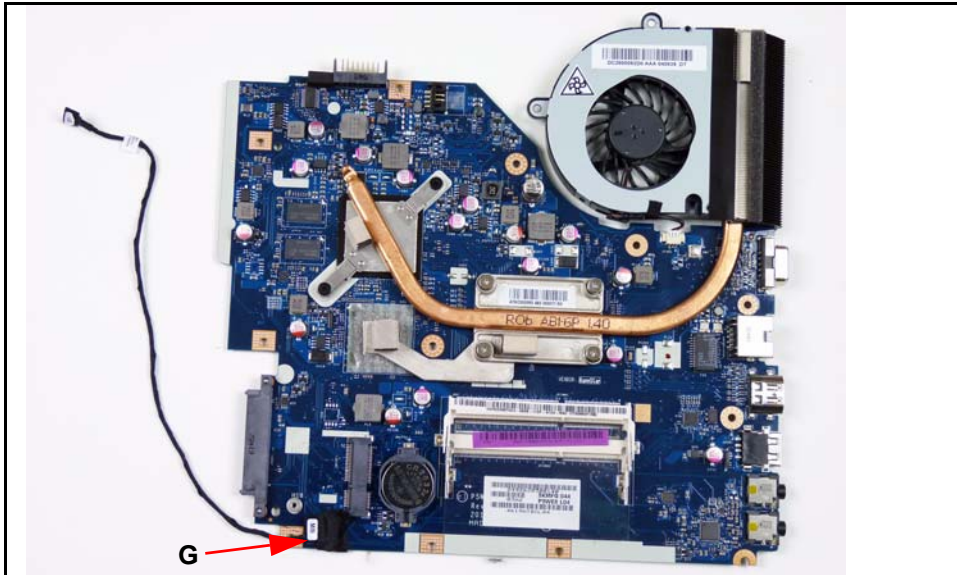

Figure 3-31. Mainboard
1. Connect Bluetooth cable to mainboard connector (G). (Figure 3-31)